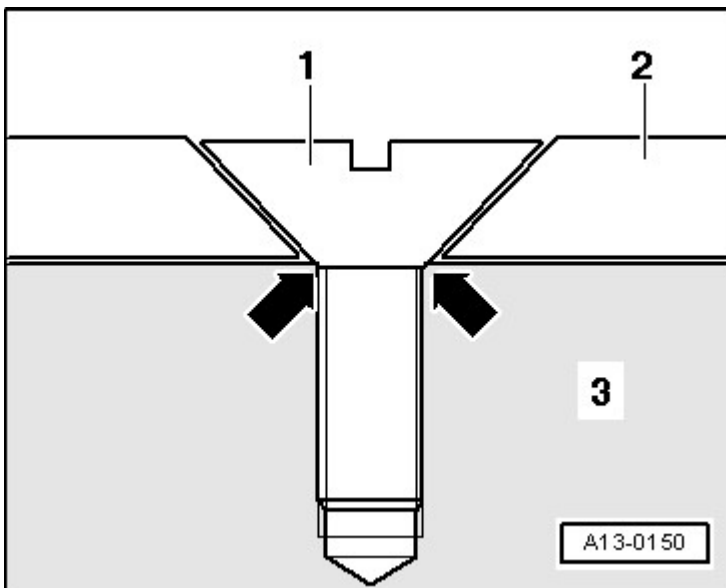

Fig. 6: Identifying Attachment Points, Countersunk Screws, Crankshaft & Sensor Wheel
- Installing **Fig. 6**
- Tightening sequence **Fig. 6**